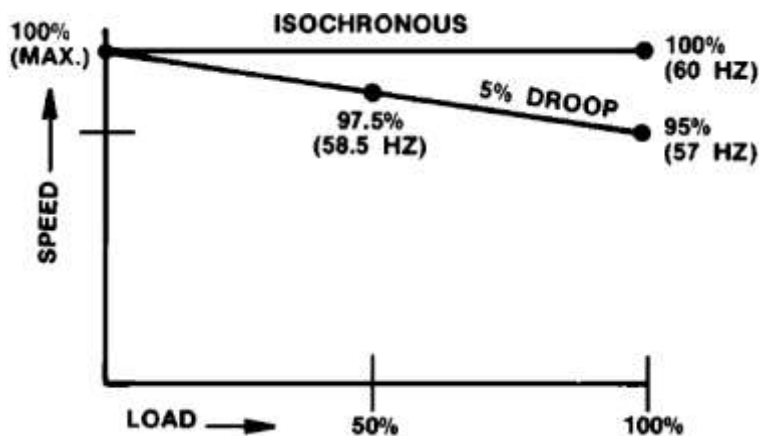

Figure 2-8. Droop Definition
3. Adjust DROOP potentiometer to give the desired speed. Operating at 60 Hz, 57 Hz at full load indicates 50/0 droop. If only 500/0 loading is possible, 58.5 Hz would indicate 5% droop. See Figure 2-8, Droop Definition.